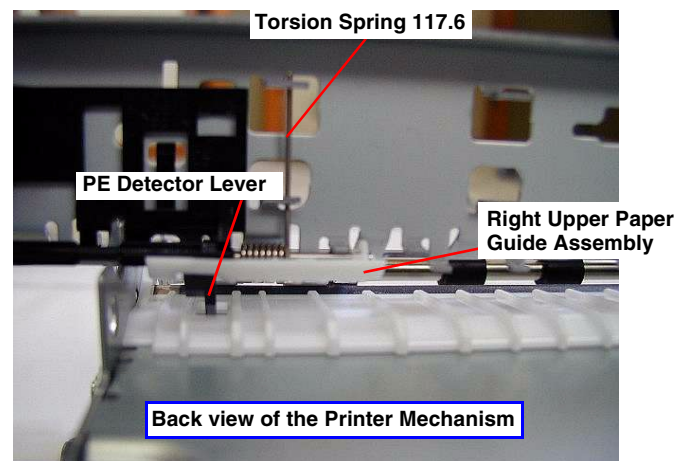

Figure 4-61. Installing the Right Upper Paper Guide Assy.
- When the Right Upper Paper Guide Assembly is installed on the Top Frame with a Torsion Spring 117.6, ensure that the PE Detector Lever is set in the square cut off area in the Right Upper Paper Guide. Insert the Right Upper Paper Guide Assembly from the front so you can set the PE Detector Lever in the square cut area in the Right Upper Paper Guide. Refer to Figure 4-61.
During assembly, make sure that the tip (sensor part) of the detector lever is in the hole in the Right Paper Guide Assembly. Refer to Figure 4-61.